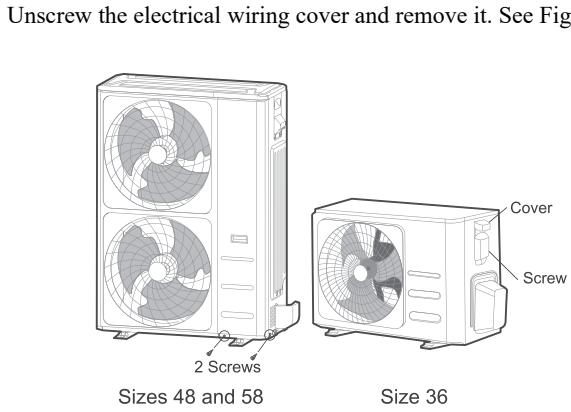

Fig. 29 —Remove Panels and Electrical Wiring Cover
2. Remove the 2 screws on the front and side panels. Take it down to perform wire connection. See Fig. 29.